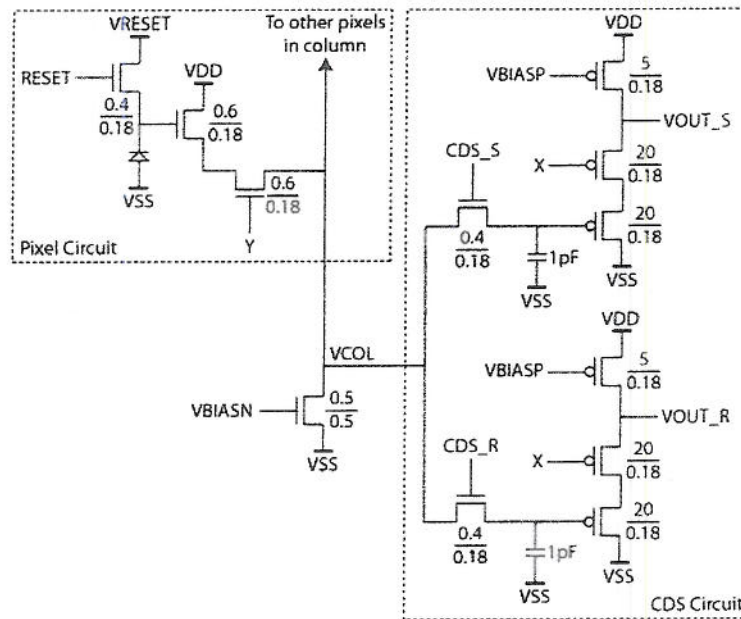

Figure 5.1
5. The *pixel* and *column* circuits to an *Active Pixel Sensor (APS)*-based image sensor designed in a  $0.18\mu\text{m}$  CMOS technology are shown below in Figure 5.1.